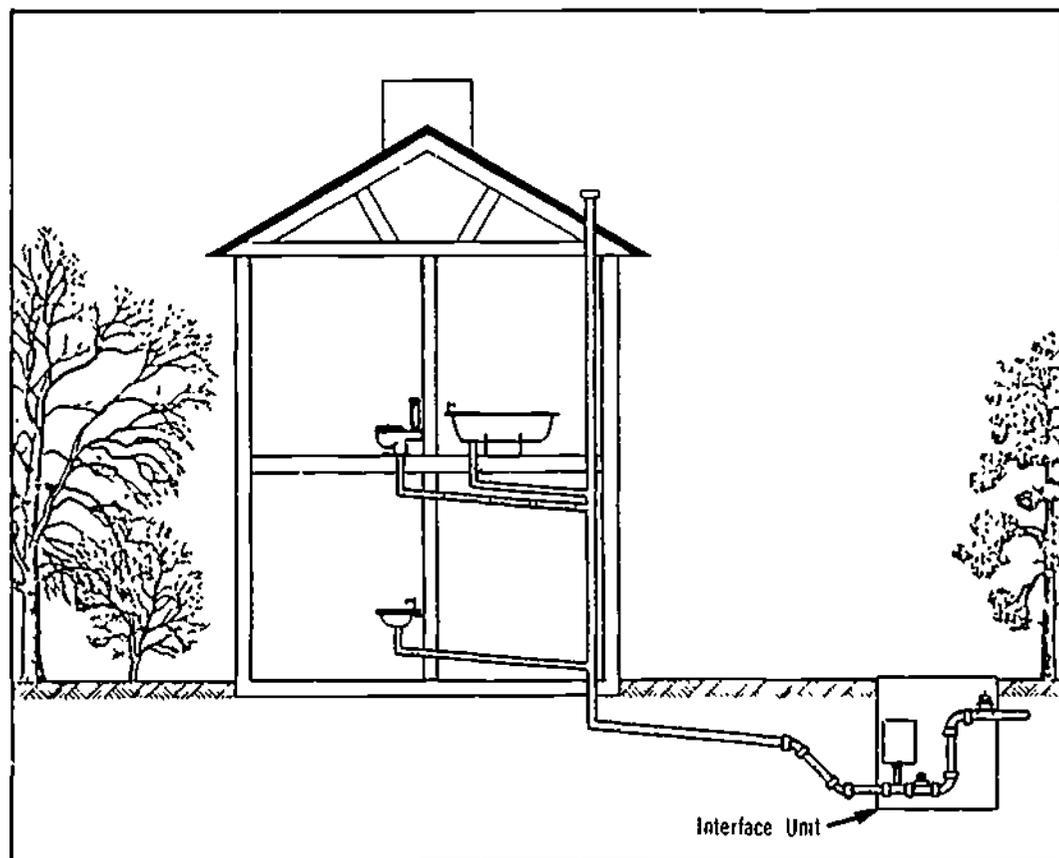

Figure 37-34. The Interface Unit
- The interface unit, to collect sewage from homes or other sources (Figure 37-34).
106. At each source of sewage entering the vacuum system, an interface unit is installed on-line between the gravity service connection and the vacuum piping network, allowing sewage into the vacuum main on demand. (See Figure 37-34.)